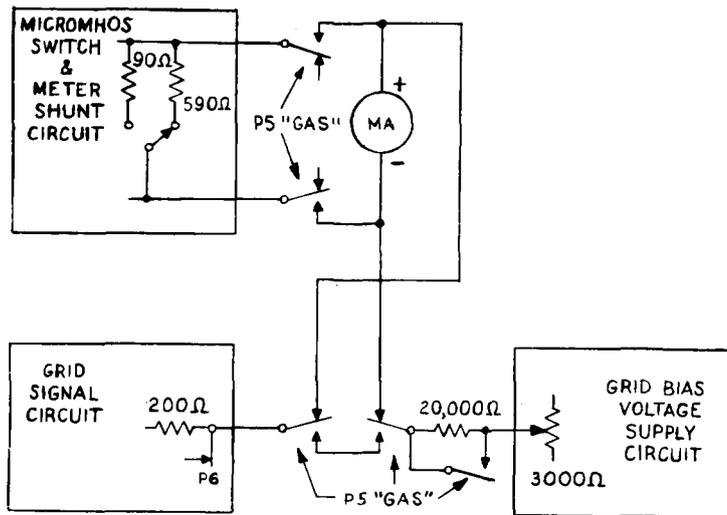

Fig. 6 - Gas Test Circuit
2.25 Gas current in a tube or grid leakage current due to poor grid to filament insulation may be detected by the switched insertion of the micromhos meter into the grid circuit of a tube under test, as shown in Fig. 6 and described in Paragraph 2.18, Item (2). In this setup the normal